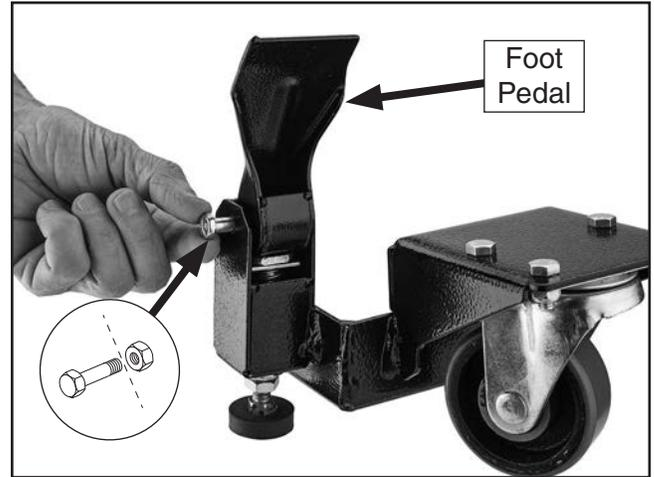

Figure 5. Attaching foot pedals.
3. Attach foot pedal to each front corner bracket with M8-1.25 x 50 shoulder bolt and M8-1.25 lock nut (see **Figure 5**).